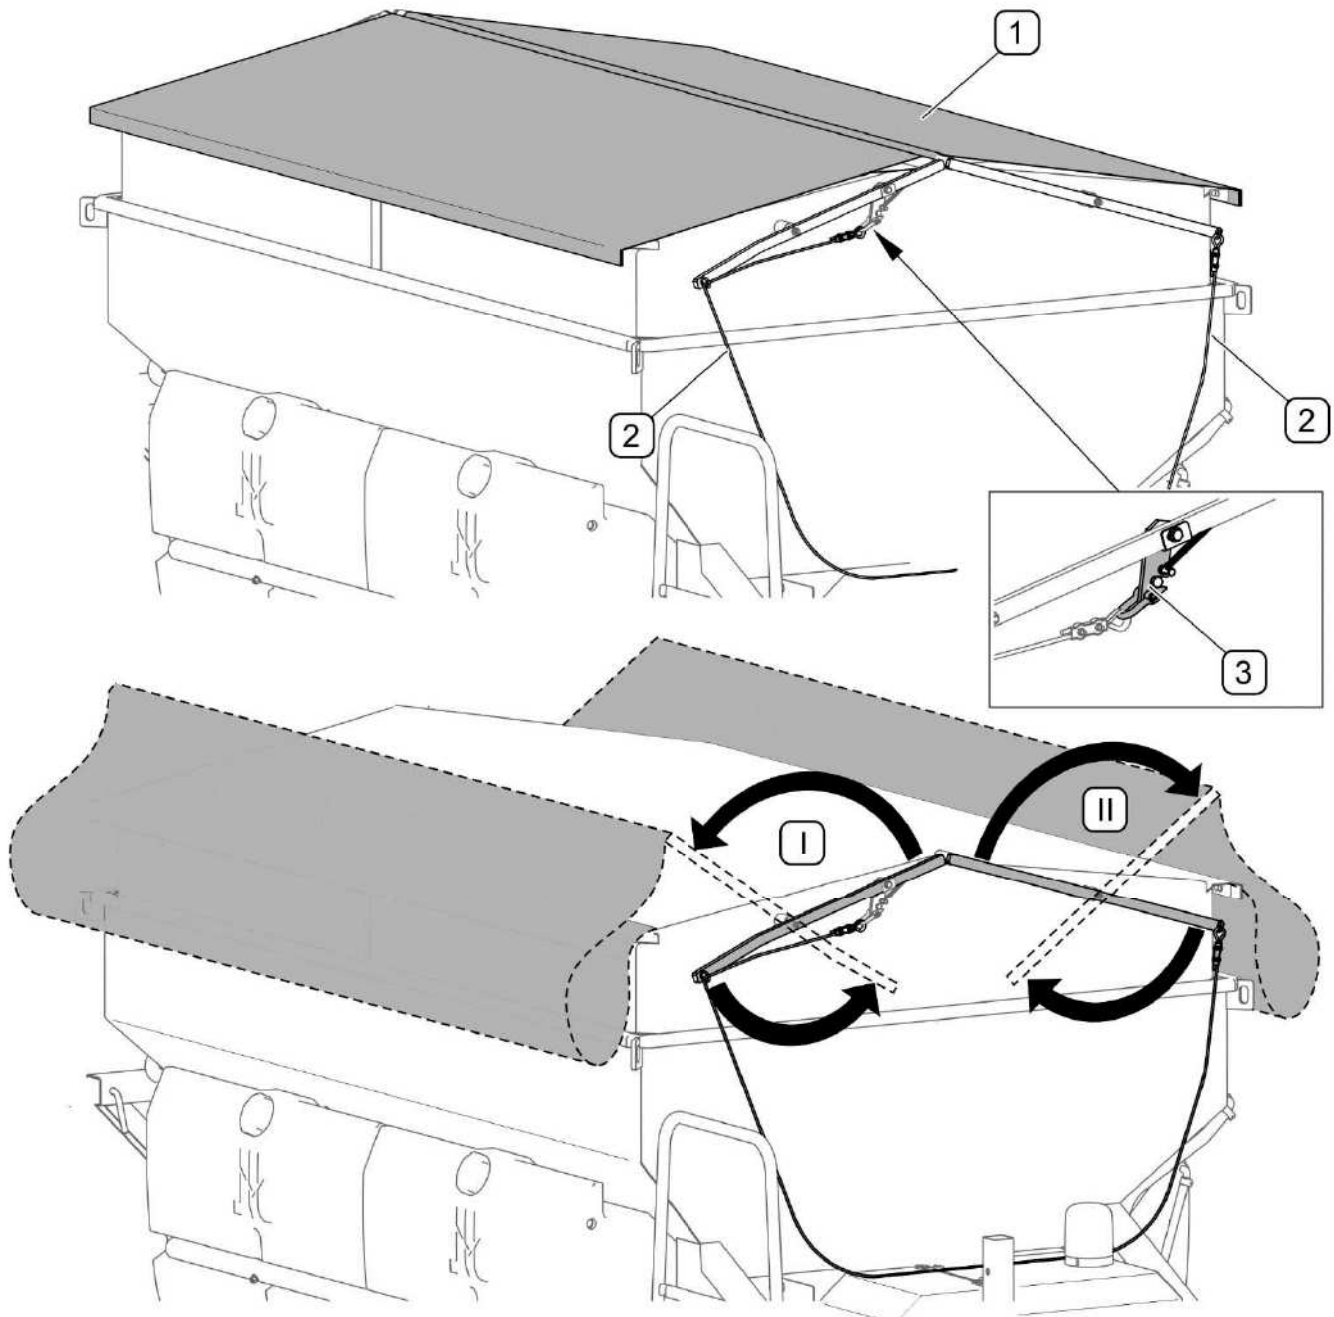

FIG. 4.15 Raising the tank's tarpaulin cover
- hold the ladder (1) and remove securing cotter pin (3),
- lower the ladder (1).
Release catch (3) by pulling a cord and raise tarpaulin cover by means of frame lever. Tarpaulin cover rising sequence (I) - (II) is shown in (FIG. 4.15).
(1) - tarpaulin cover; (2) - catch; (3) - frame lever
Before loading, check that there are no foreign objects (tools, stones etc.) in the tank. The tank should be loaded from above through the screen that prevents lumps of material from entering the tank. When loading the tank, it is recommended to use a front loader or belt conveyor. Efforts should be made to evenly distribute the load in the tank in order to ensure proper stability of the sand spreader. Avoid throwing material into the tank from a great height. After loading, cover the tank with tarpaulin (FIG. 4.15) and make sure that the pawl (2) is locked.